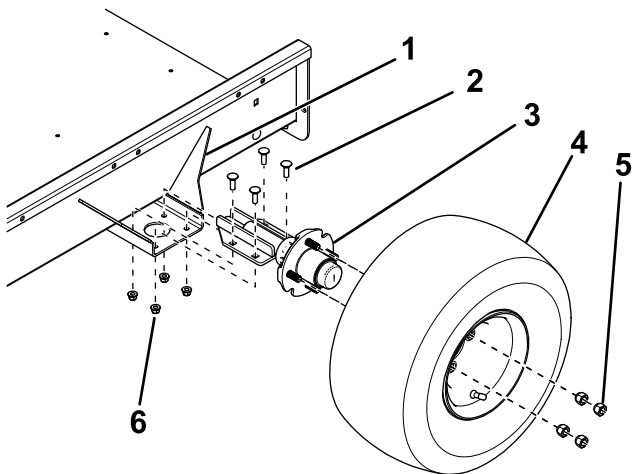

Figure 2
2. Using the 4 carriage bolts and 4 locknuts, mount an axle to the top side of the mounting brackets on each side of the trailer bed as shown in Figure 2.
3. Mount a wheel assembly to each axle hub with 4 lug nuts (Figure 2) and tighten the nuts to 80 ft-lb (108.5 N·m).
3. Adjust the position of the axle mounting brackets so that the front center-to-center distance is about 3 mm (1/8 inch) less than the rear center-to-center distance (Figure 2).